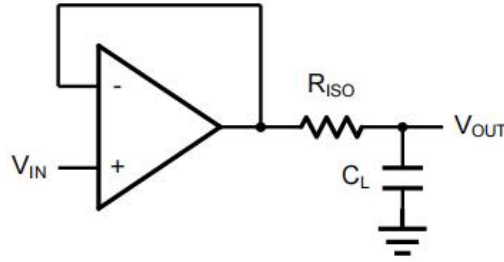
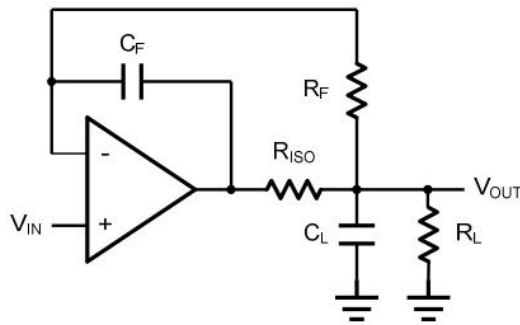

Figure 2. Indirectly Driving a Capacitive Load Using Isolation Resistor
Figure 3. Indirectly Driving a Capacitive Load with DC Accuracy
The OPA374/2374/4374 family is optimized for bandwidth and speed, not for driving capacitive loads. Output capacitance will create a pole in the amplifier's feedback path, leading to excessive peaking and potential oscillation. If dealing with load capacitance is a requirement of the application, the two strategies to consider are (1) using a small resistor in series with the amplifier's output and the load capacitance and (2) reducing the bandwidth of the amplifier's feedback loop by increasing the overall noise gain. Figure 2. shows a unity gain follower using the series resistor strategy. The resistor isolates the output from the capacitance and, more importantly, creates a zero in the feedback path that compensates for the pole created by the output capacitance.
The circuit in Figure 3 is an improvement to the one in Figure 2.  $R_F$  provides the DC accuracy by feed-forward the  $V_{IN}$  to  $R_L$ .  $C_F$  and  $R_{ISO}$  serve to counteract the loss of phase margin by feeding the high frequency component of the output signal back to the amplifier's inverting input, thereby preserving the phase margin in the overall feedback loop. Capacitive drive can be increased by increasing the value of  $C_F$ . This in turn will slow down the pulse response.